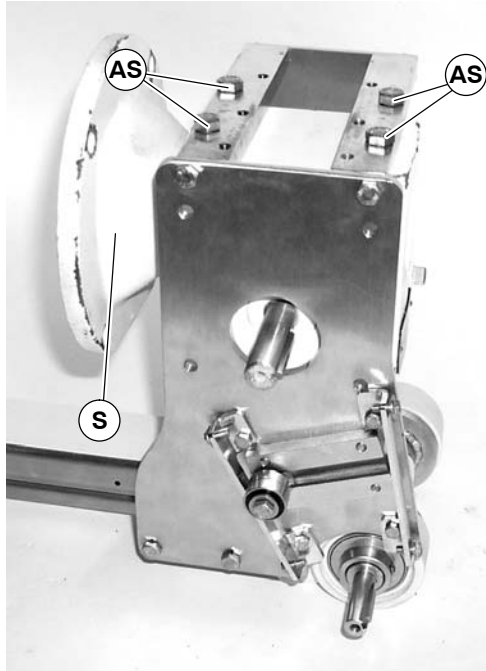

Figure 38
- Remove four (4) gear reducer mounting screws (AS of Figure 38). Remove gear reducer (S).